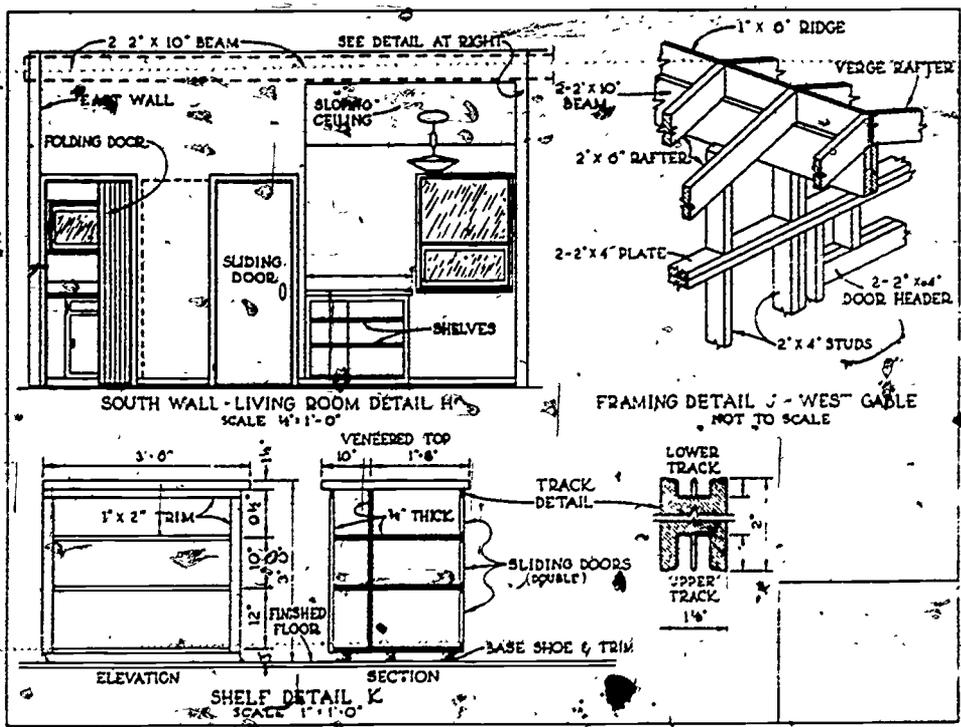
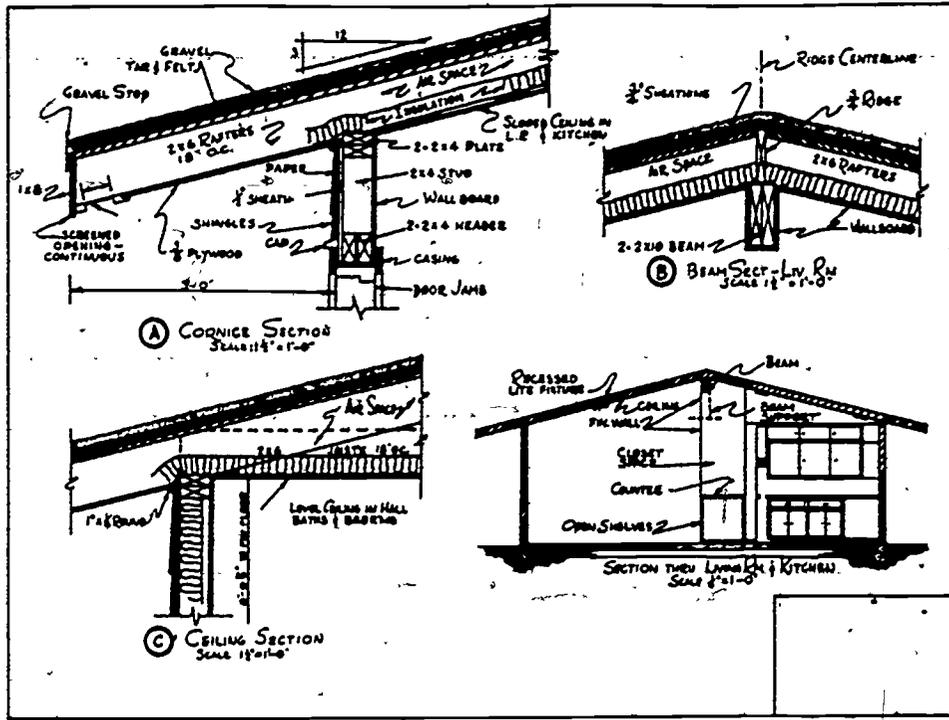

Figure 41. Details
Figure 42. Sections
SECTIONS AND DETAILS. A section and a detail are practically synonymous; however, no view is called a detail unless it is drawn to an enlarged scale to show construction features more clearly. A south wall detail of living room, a framing detail of gable, and a shelf detail are shown in figure 41. The detail sections show parts of the structure with greater exactness than the small-scale section taken through the structure. When the cutting plane cuts across the narrow part of a structure or building, the view is called a transverse section. A transversal is a line intersecting any system of lines, as indicated in figure 42 (C). Sectional views taken lengthwise are called longitudinal sections. Detail sections which are usually shown are foundation, wall, door, window, or any other section considered necessary to explain the construction.
Exterior detail views, like detail sections are large-scale drawings designed to show features which are too small or too complex to be shown in other views. They are usually developed in right-angle projection but a pictorial projection may be used if it shows the construction to a better advantage. Important parts of detail and sectional views are the notes and dimensions to show the size of materials and the placement of parts in relation to each other. For instance, section A of figure 42 gives such details as rafter sizes (2 x 6 rafters 18" on center), sloped ceiling in the living room and kitchen, gravel roof, etc. The specifications describing the length of the rafters, amount of slope, and the thickness of the gravel roof would be included in the construction notes for the job.
Detail Views. Elevation and plan views together show the major construction of the building. Both of these views are too small to clearly show minor assemblies; therefore, special drawings are made showing only a portion of the main structure. These are called detail drawings because they show the most minute detail pertaining to the specific portion of the structure, as shown in figure 41. Specifications of materials, dimensions, and other information relative to construction are usually included. These drawings are made to a larger scale in order to give clearer detail. The importance of detail drawings is very easy to understand when you consider the information needed to build kitchen cabinets or stairways.
Sectional Views. To show hidden construction features, various items are often drawn in sections, as shown in figure 42. This is done by cutting the item in the same manner that you would cut a wooden box to show the floor plan. The box is shown first with a line marking the cutting plane. A heavy dotted and dashed line is used to represent the place where the cut is to be made. The line has arrows at right angles to it, representing the direction in which the section is viewed. The section line is usually labeled "A-A," "B-B," and so on through the alphabet if several views are required. The most important value of a sectional view is that dimensions can be shown for parts that are completely hidden.